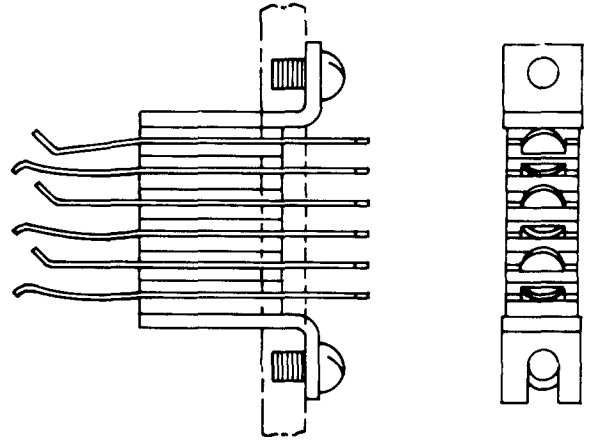

Fig. 17—395B Jack
**2.17 395B:** This multicontact jack (Fig. 17) is arranged for a 240B plug. The jack is used with the SD-31428-01 outgoing repeater circuit in Step-By-Step Telephone Systems. This jack consists of two metal brackets between which are mounted three pairs of contact springs insulated from each other. The terminals are arranged for mechanically wrapped connections.